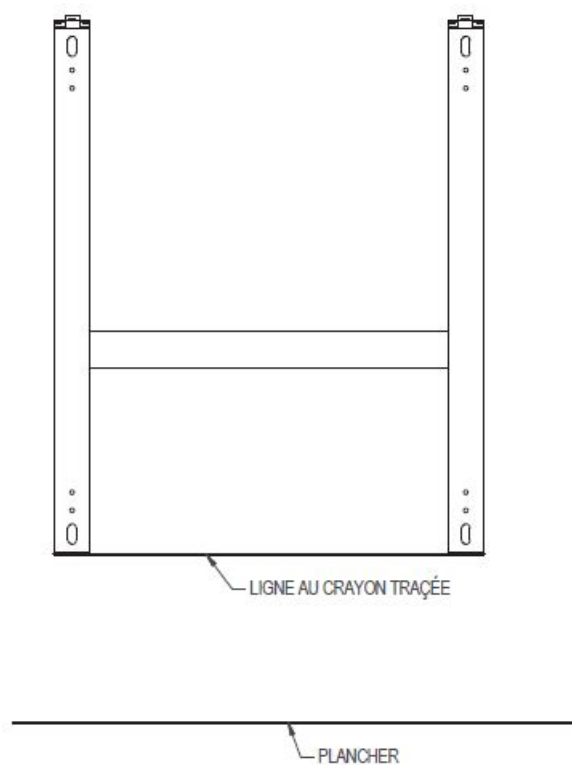

FIGURE 2
3. Align bottom of wall bracket with the temporary line drawn in the previous step. (FIGURE 2)